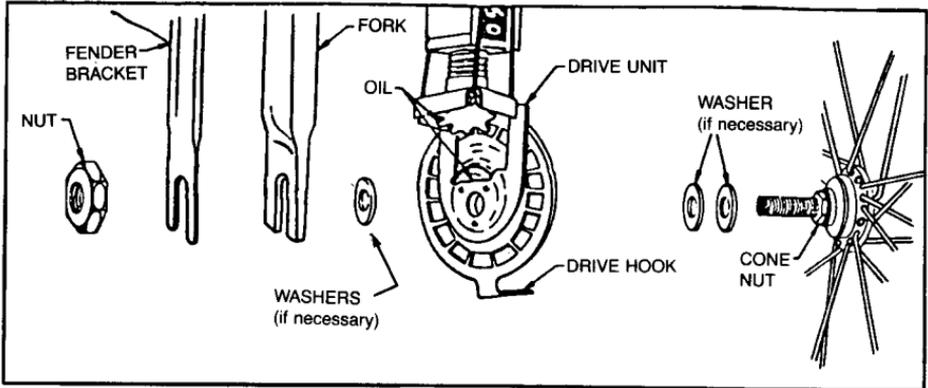

FIGURE 1
3. Slide unit onto axle and insert drive hook between any two spokes. If clearance between spokes and drive gear face is greater than $1/32''$ (width of a penny), remove one washer at a time until $1/32''$ distance between spokes and drive gear is obtained. See Figures 1 and 2.